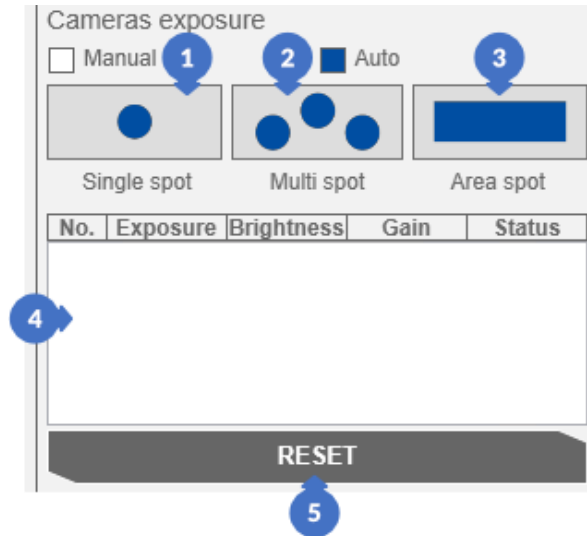

Figure 168. Autoexposure indicator in the panels
Clicking on a point and holding down the left mouse button will change the position of the point. After this operation, it is required to recalculate the point using the *RECALCULATE SPOT* button (6) (Figure 168) (before clicking the button, select the point in the list).